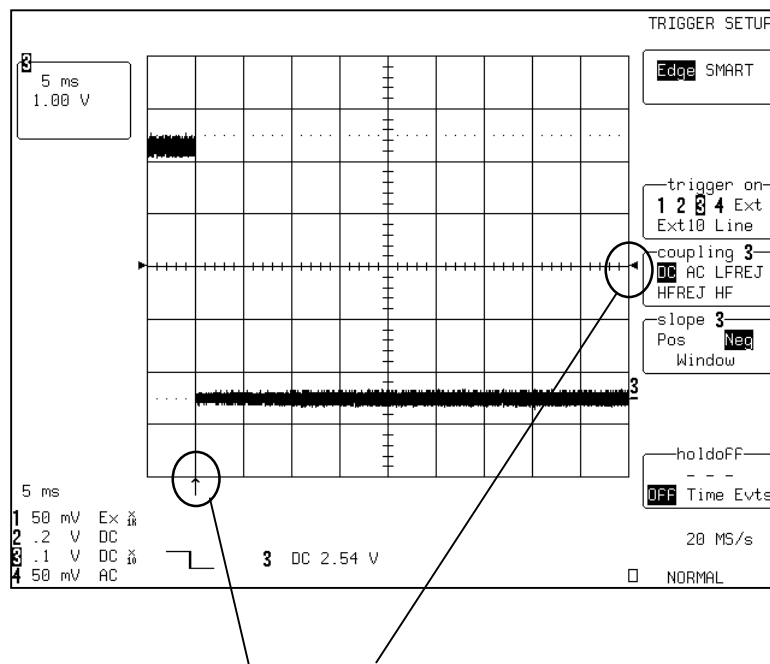

**Figure 3.4:** Typical connections to the circuit under test for acquiring a source of the feedback modulation and various EVENT trigger sources.
**Figure 3.4:** Modulation Analysis displays a PWM circuit's step response as the output load changes from maximum to minimum. In this example, over 1000 gate drive pulses are recorded in the first grid [2], and a record of their individual widths is displayed in the second grid [B: Jwidth (2)].
Determine the event around which the acquisition of an extended signal modulation record will be required. Triggering the acquisition of the modulated signal on these “EVENTS” can test the circuit’s response to events such as line voltage change, turn-on, turn-off, and load change. Typical trigger points are illustrated in Figure 3.4.